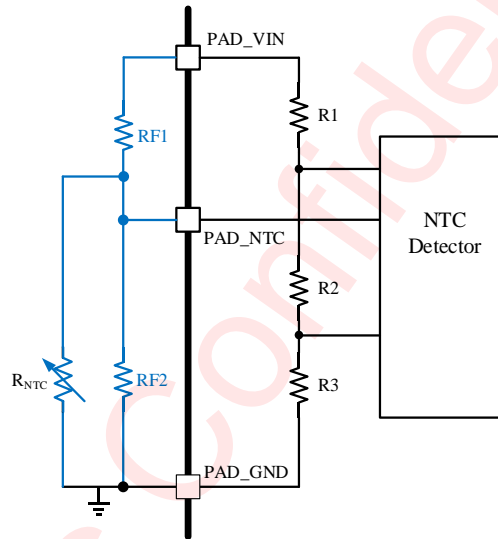

Figure 6 NTC Function
NTC pin is connected to the thermistor paralleled with a resistor R_{F2} to ground. Another resistor R_{F1} is connected to the VIN which is the chip's internal power supply voltage. The high temperature limit and low temperature limit can be varied by using different R_{F1} and R_{F2} . Illustrated in Figure 6, the off chip resistors must be connected as the blue part demonstrated. The resistance of R_{F1} and R_{F2} can be calculated by Equation (1) and Equation (2):